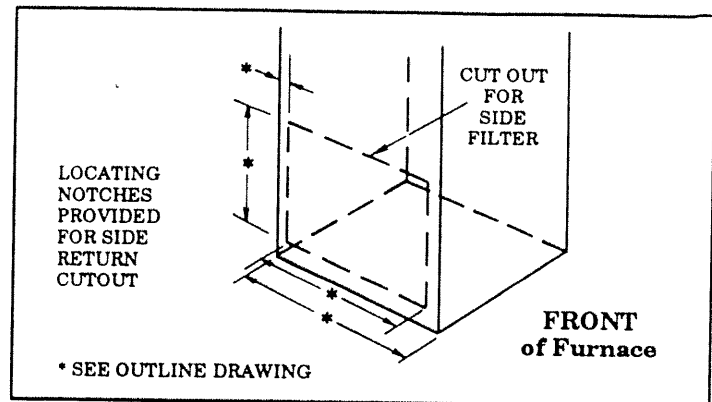

FIGURE 6
3. The side panels of this furnace include locating notches that are used as guides for cutting an opening for return air. Refer to Figure 6 and the outline drawing on page 23 for duct connection dimensions for various furnaces. The bottom panel has a special "pop-out" panel.
5. If a 3/4" flange is to be used for attaching the air inlet duct, add to cut where indicated by solid lines in Fig. 6. Cut corners diagonally and bend outward to form flange.